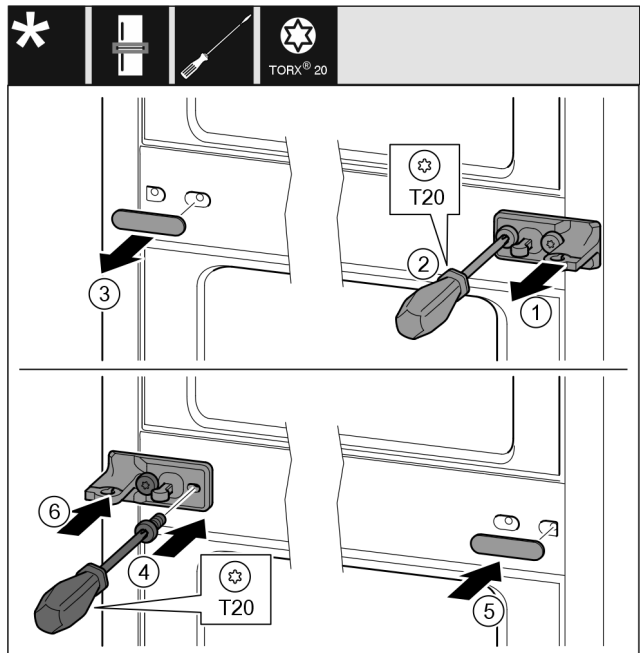

Fig. 12
- ▶ Remove the washer Fig. 12 (1).
- ▶ Unscrew screws Fig. 12 (2) with screwdriver.
- ▶ Remove the cover Fig. 12 (3) carefully.
- ▶ Turn the bearing block with film Fig. 12 (4) by 180° and screw it tight on the other side.
- ▶ Turn the cover Fig. 12 (5) by 180° and attach to the other side.
- ▶ Slide on the washer Fig. 12 (6) from the front.